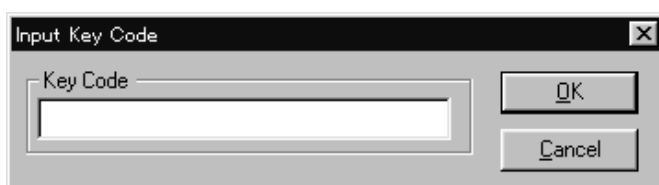

Figure 3.7 Entering the HORC License Key Code
- c) On the Option Product panel, select **Remote HORC**, and then select **Install...** to open the Input Key Code panel (see Figure 3.7).